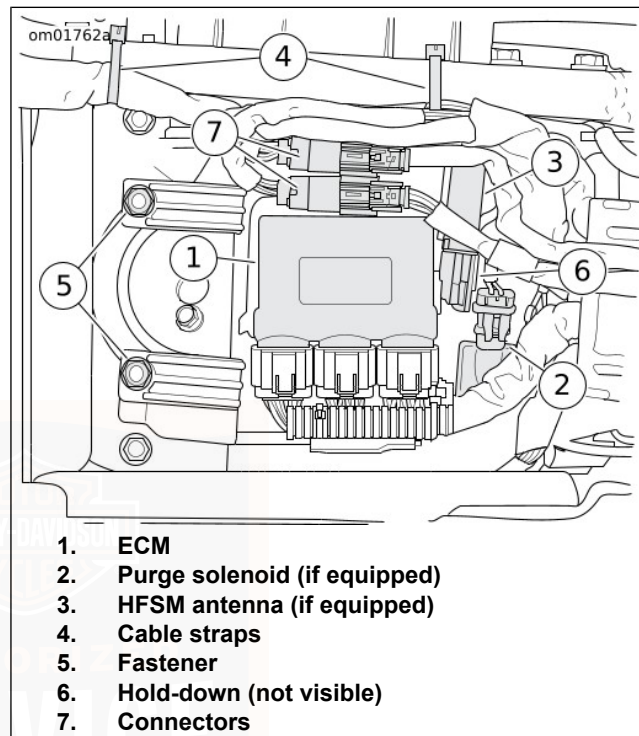

Figure 91. Top Caddy
2. See Figure 91. Release ECM (1) from top caddy. Move out of the way.
3. If present, move purge solenoid (2) forward to release from top caddy. Release HFSM antenna (3) from top caddy and move out of the way.
4. Release connectors (7) from anchors on top caddy.
5. Remove fasteners (5).
6. Cut cable straps (4). Move harnesses to allow more clearance for the top caddy.
6. See Figure 91. Place top caddy into position and engage latch on hold-down bracket.
7. Fasten top caddy to frame crossmember with screws (5). Tighten to 8.1–10.9 N·m (72–96 **in-lbs**).
8. If equipped, engage HFSM antenna (3) and purge solenoid (2) on top caddy. Verify that all other connectors and harnesses are routed below the purge solenoid mounting tongue.
9. Secure connectors (7) to anchors on top caddy.
10. Latch ECM (1) into place on top caddy.
11. Secure harnesses to frame with cable straps (4).